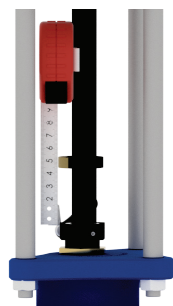

Figure 15
2.8.11) Tighten the stop collar to the correct measurement (see Figure 15).